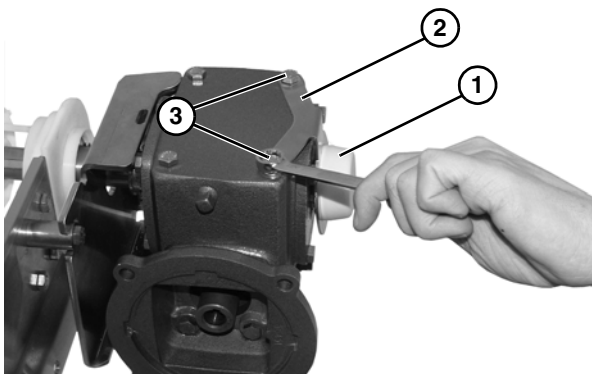

Figure 7
5. Install gear reducer output shaft cover (**Figure 7, item 1**).
6. Install cover bracket (**Figure 7, item 2**) onto gear reducer with screws (**Figure 7, item 3**).